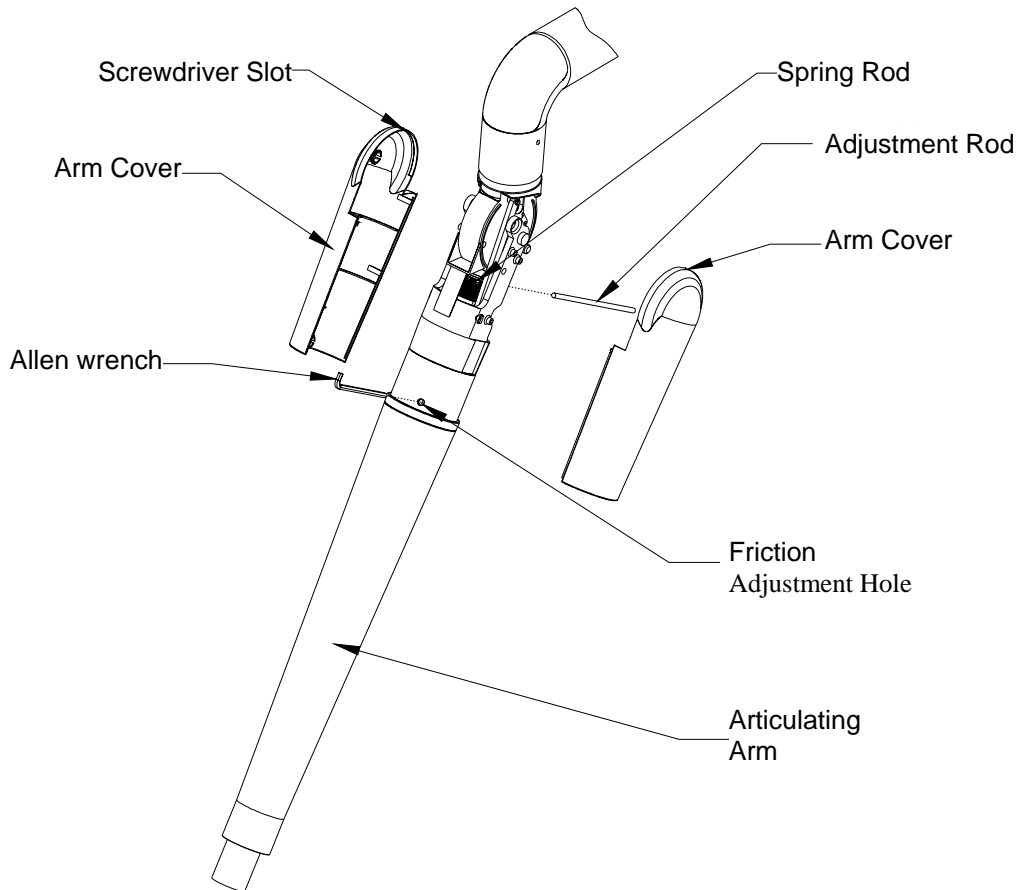

Figure 30-Arm Adjustment
- Friction adjustment: Should the articulating arm need a friction adjustment insert the 3/32" Allen wrench (supplied in hardware kit) into the top hole located in the pivot casting and turn clockwise to tighten or counter clockwise to loosen. (See Figure 30).